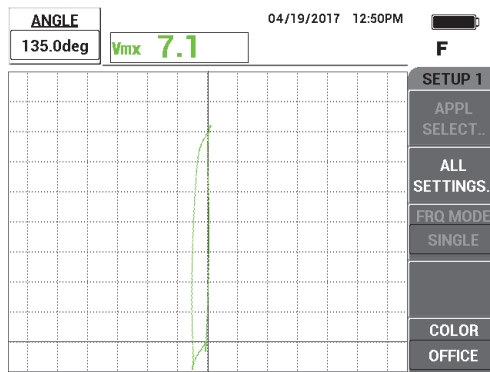

Figure 5-236 Adjusting the signal phase
3. Press the ANGLE key () , and then rotate the signal until the 60 % wall-loss groove signal is vertical (see Figure 5-236 on page 295).